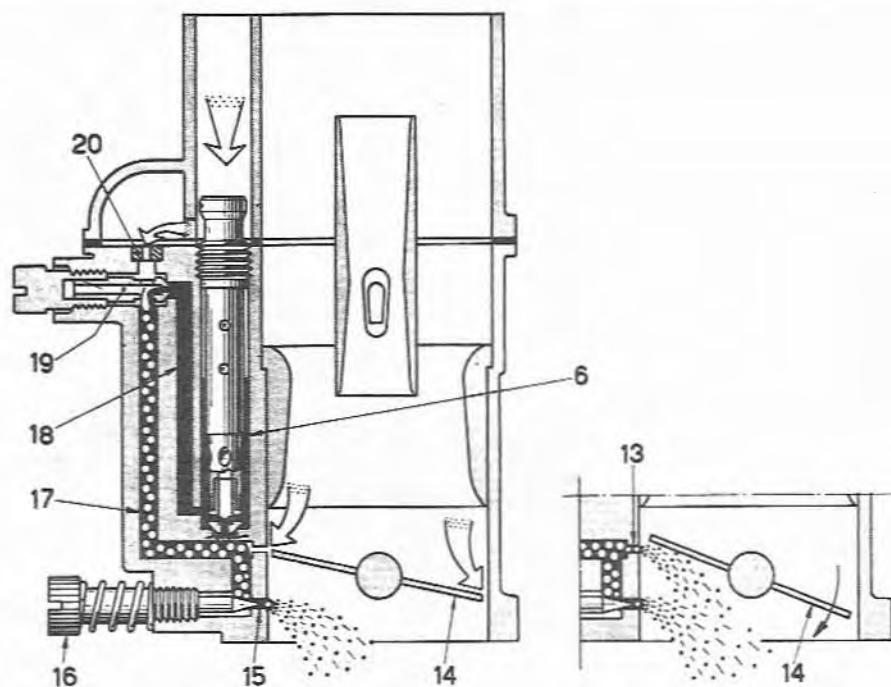

Fig. 13.2 Idling and progression phase (Sec 3)
Refer to Fig. 13.2 and note that when the engine is idling with the throttle valves (14) closed, fuel is drawn through the main jets and emulsion tube wells (6), along channels (18) to the idling jets (19) where it becomes emulsified with air entering through the calibrated bushes (20). The mixture then travels through the channels (17), past the adjustable mixture screws (16), through the idling feed holes (15) and into the carburetor throats at the engine side of the throttle valves (14). The idling mixture screws (16) have tapered ends and can therefore be adjusted to admit more or less mixture as necessary.